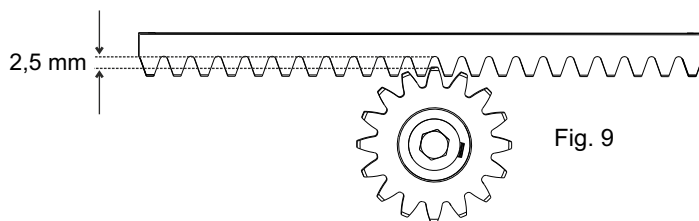

Fig. 9
5.6. To avoid that the door weights down on the pinion (Fig.9) lift up the whole rack about 2,5 mm.